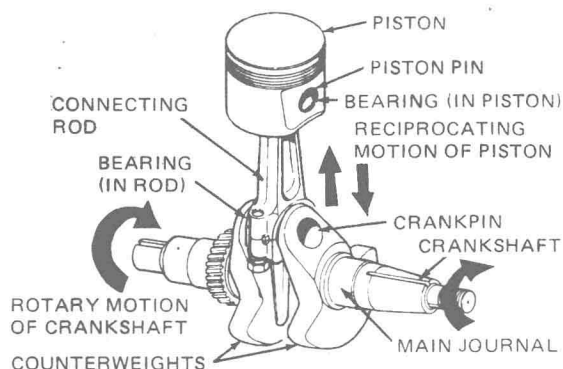

**Fig. 1-9.** Piston, connecting rod, piston pin, and crank of a crankshaft in disassembled view. The piston rings are not shown.
**1-5 Changing Reciprocating Motion to Rotary Motion** The piston moves up and down in the cylinder. This straight-line motion is called *reciprocating motion*; the piston moves in a straight line. This straight-line motion must be changed to rotary motion before it can be used to make the car wheels rotate. A connecting rod and a crank on the engine crankshaft make this change (Fig. 1-7). The crank is an offset section of the crankshaft. It swings around in a circle as the shaft rotates (Fig. 1-8). The connecting rod connects the crankpin on the crank and the piston (Figs. 1-9 and 1-10). The crank end of the connecting rod is attached to the crankpin by fastening the rod cap to the connecting rod with the rod bolts. Bearings in the rod and cap permit the crankpin to rotate freely within the rod. The piston end of the connecting rod is attached to the piston by the piston pin, or wrist pin. Bearings in the piston or in the rod to tilt back and forth freely.